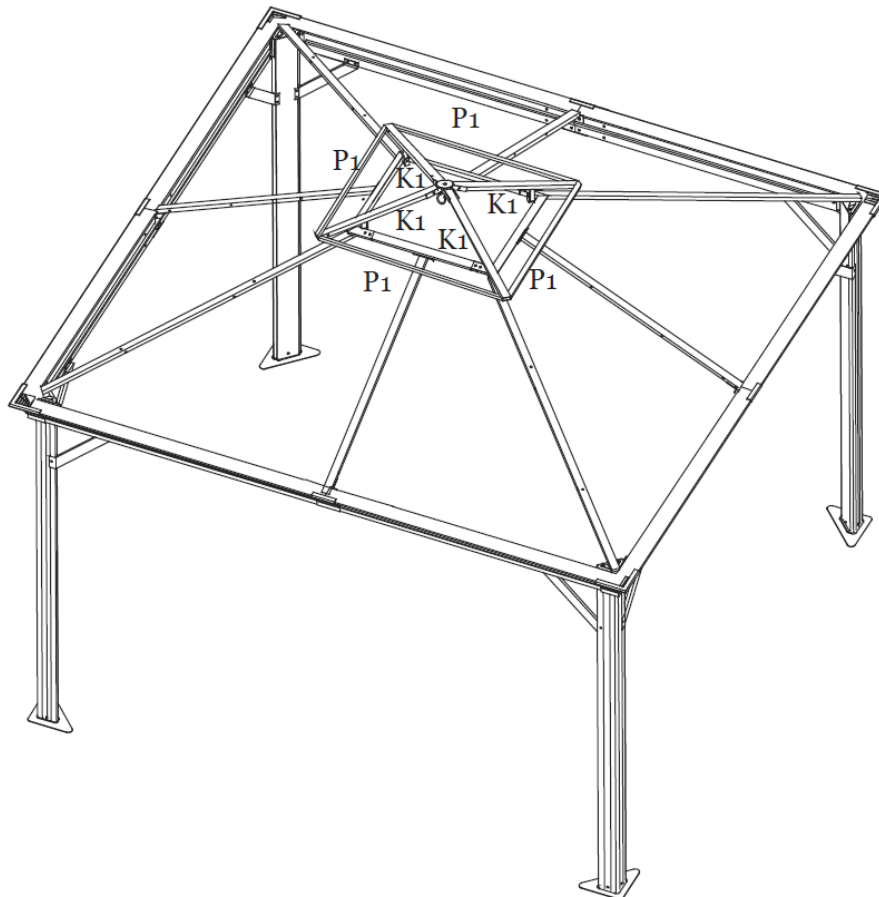

Figure 8-2
Step 8B: Repeat for all corners. **Tighten all Bolts.** See Figure 8-2.